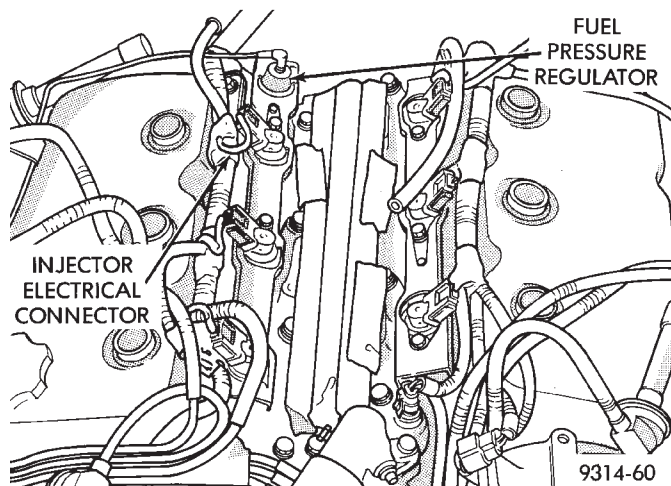
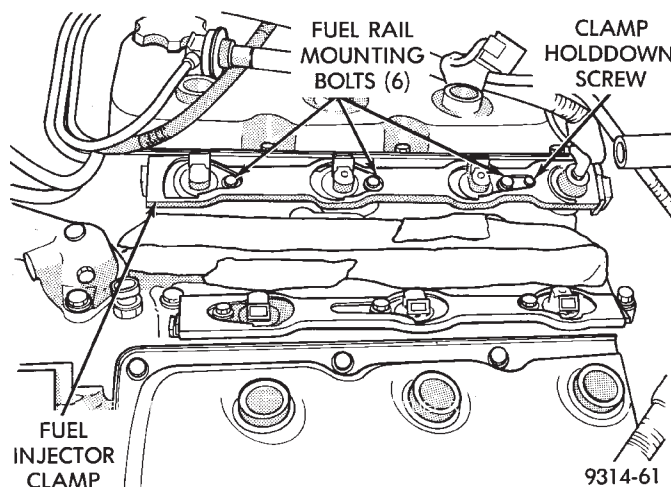

Fig. 25 Fuel Pressure Regulator
Fig. 26 Fuel Injector Clamp
(1) Release fuel system pressure. Refer to Fuel System Pressure Release Procedure in this section.
(2) Tag the injector connectors with their cylinder number.
(3) Remove electrical connector from injectors.
(4) Remove the vacuum tube from the fuel pressure regulator (Fig. 25).
(5) Remove fuel rail mounting bolts.
(6) Remove injector clamp screw (Fig. 26).